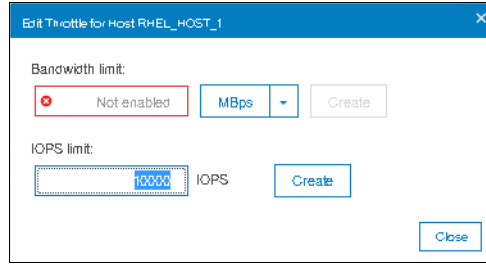

Figure 5-115 Setting IOPS throttle
3. Input the desired type of I/O throttle, either IOPS or Bandwidth. In our example we set up IOPs throttle by entering the **IOPS limit** as shown in Figure 5-115 on page 265.